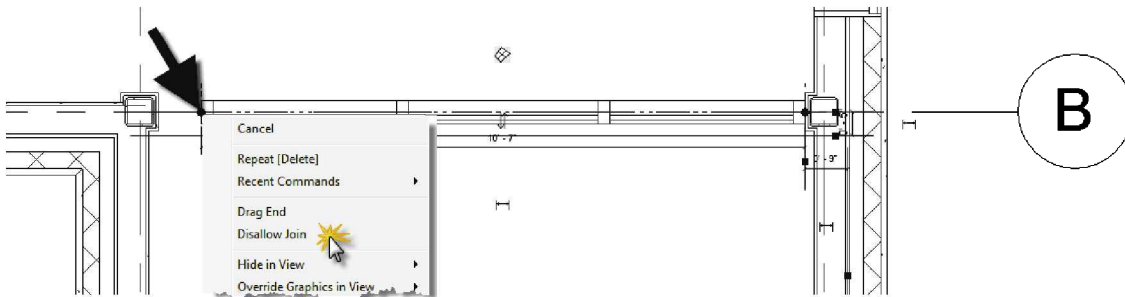

FIGURE 11-4.5 Wall selected; right-click on blue grip on the left to reveal menu
27. Select **Disallow Join** from the pop-up menu (Figure 11-4.5).